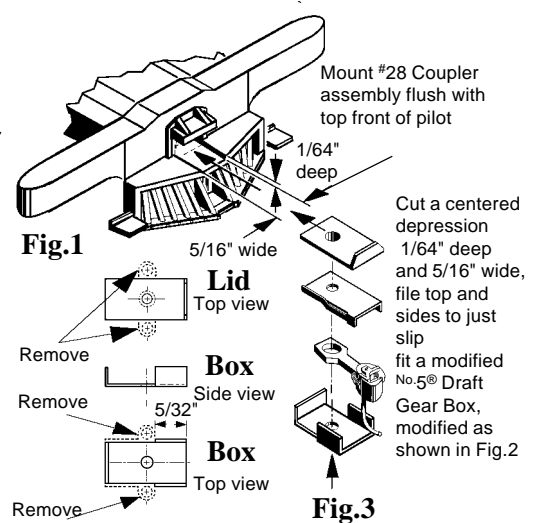

Fig.2
5. Trim opening to fit a No.5® Draft Gear Box in width (5/16") and 21/64" from bottom of coupler/chain bulkhead and 7/32" from top of rear tender floor, see Fig.2.